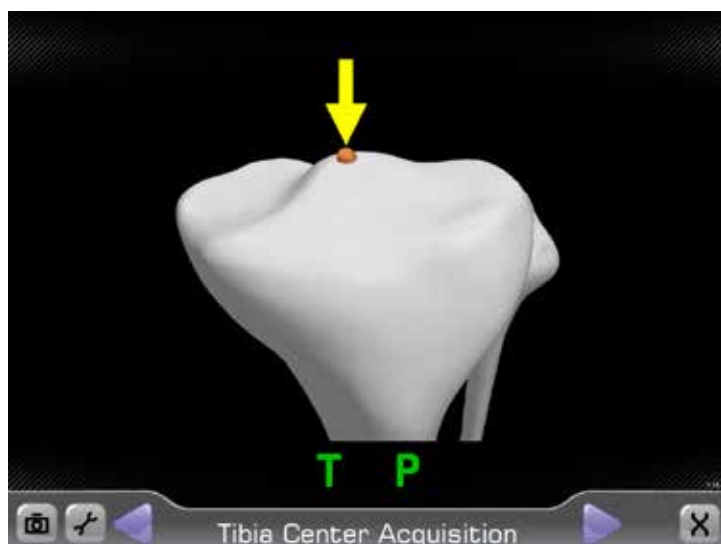

Figure 35
The Tibial Center Acquisition screen is displayed (*Figure 35*). Position the tip of the Probe Tracker (P) on the center of the proximal tibia and press the Forward button to register this point. The system will automatically advance to the next screen.